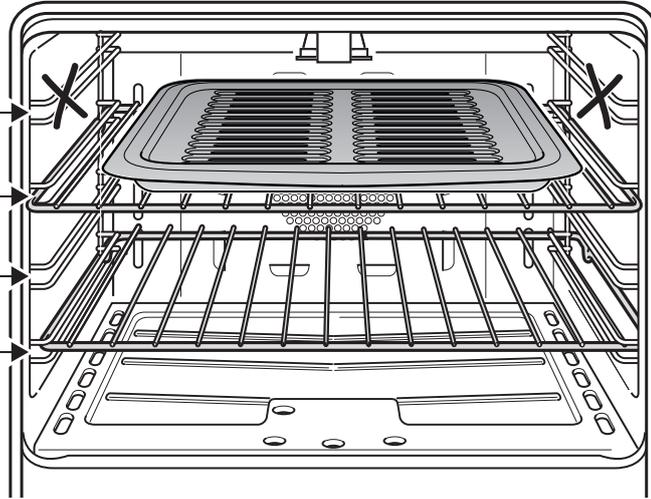
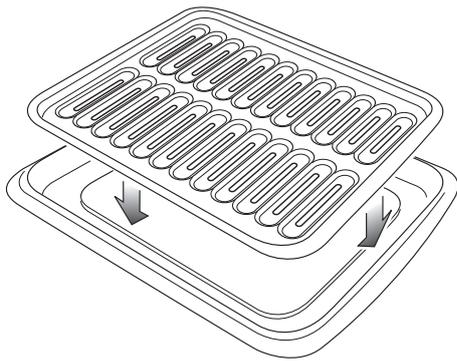

Fig. 3.5
Fig. 3.6
- Position the shelf on the second level from the top (fig. 3.5).
- Introduce the broiling pan in the oven (fig. 3.6). The broiling pan should be placed above the shelf and it should be centered with the broil burner (fig. 3.5).